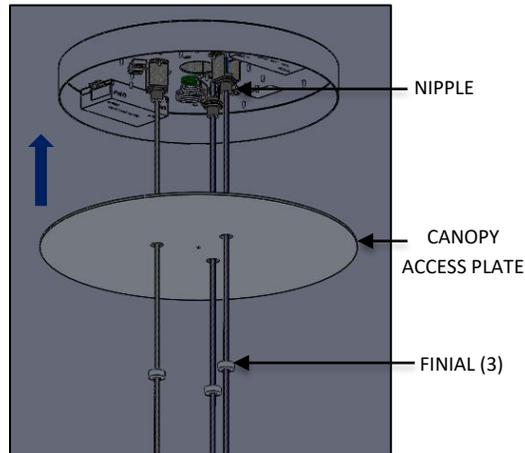

FIG. 13 - FINIAL INSTALLATION
9. Raise CANOPY ACCESS PLATE and secure to ceiling by threading the 3 FINIAL to NIPPLE (available in HANGING BRACKET) as shown below in FIG. 13.